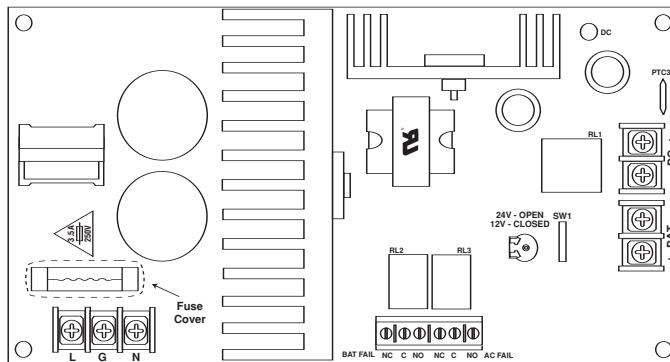

Fig. 2
2. Set the AL400ULXB to the desired DC output voltage by setting SW1 (Fig. 2) to the appropriate position (refer to Power Supply Voltage Output Selections chart).
3. Connect AC power (115VAC 50/60Hz) to terminals marked [L, G, N] (Fig. 2). Use 18 AWG or larger for all power connections (Battery, DC output, AC input). Use 22 AWG to 18 AWG for power limited circuits (AC Fail/Low Battery reporting).
4. Connect devices to be powered to terminals marked [-DC +] (Fig. 2).
6. For Access Control applications, batteries are optional. When batteries are not used a loss of AC will result in the loss of output voltage. When the use of stand-by batteries is desired, they must be lead acid or gel type. Connect battery to terminals marked [+ BAT -] (Fig. 2). Use two (2) 12VDC batteries connected in series for 24VDC operation (battery leads included).
7. Connect appropriate signaling notification devices to AC FAIL & BAT FAIL (Fig. 2) supervisory relay outputs.